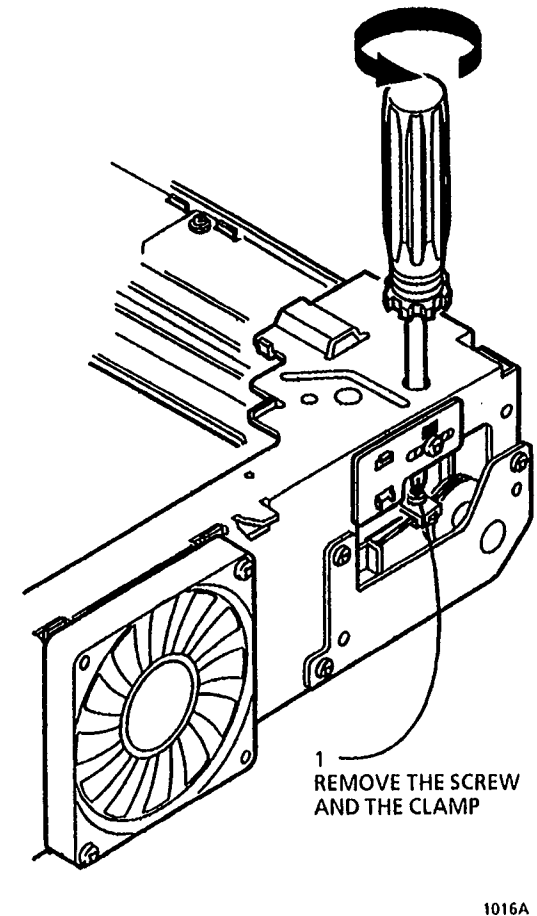

Figure 3. Detaching the Full-Rate Lamp Carriage
5. (Figure 3): Detach the Full-Rate Lamp Carriage from the Optics Cable.